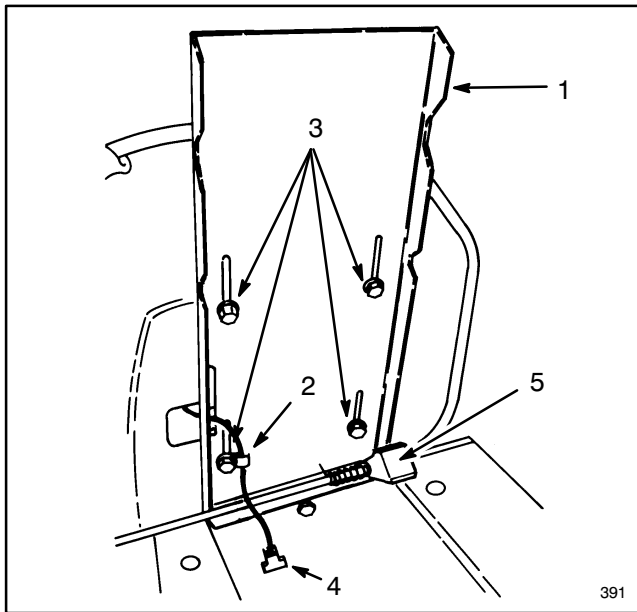

Figure 1
1. Position seat onto seat base, inserting seat switch cable thru slot and aligning mounting holes (Fig. 1).
2. Slide wire clamp over seat switch wire (Fig. 1).
3. Using left front mounting slot in seat base, loosely secure wire clamp and seat to seat base with a capscrew and lock washer (Fig. 1).
4. Mount seat to seat base with (3) remaining capscrews and lock washers.